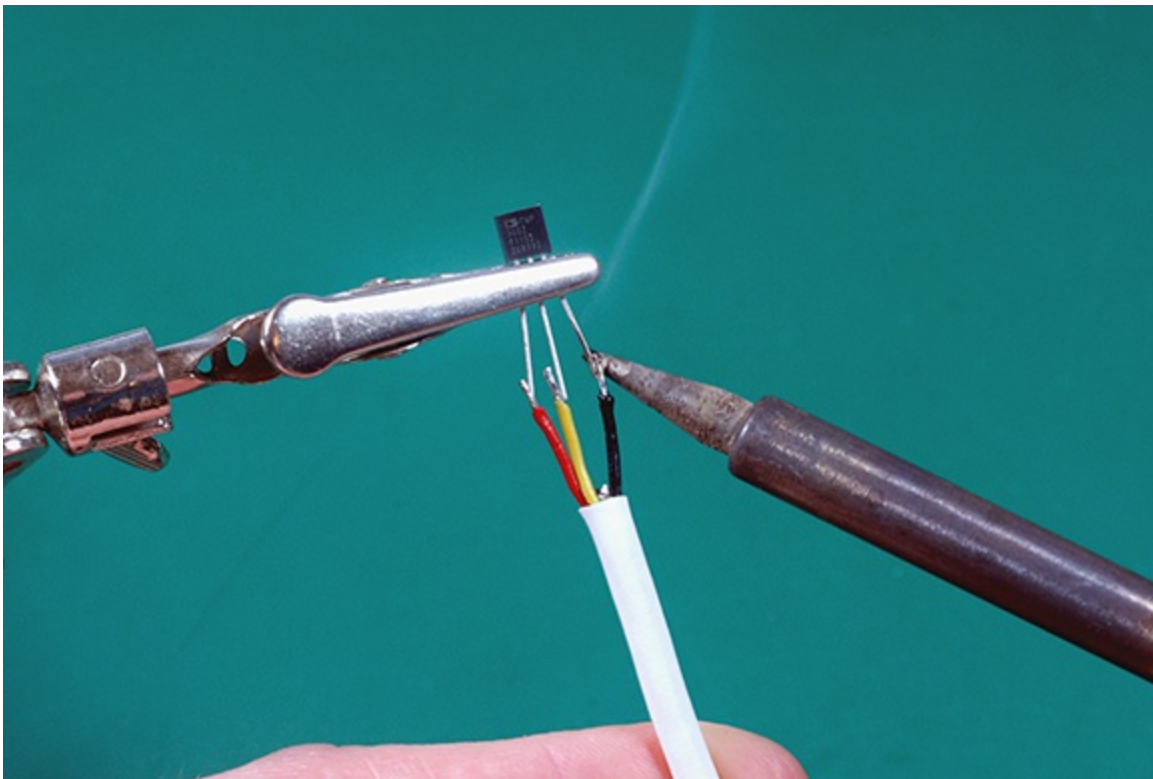

Figure 12-5: Soldering your temperature sensor.
4. Splay the legs of your TMP36 and solder your three wires to its legs, as shown in Figure 12-5. With the flat face of the sensor toward you, the order to solder, from left to right, is: positive wire, signal wire, negative wire.